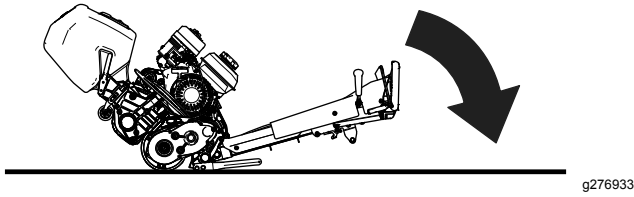

Figure 7
2. Access the cutting unit by lowering the traction-unit handle to the ground (Figure 7).